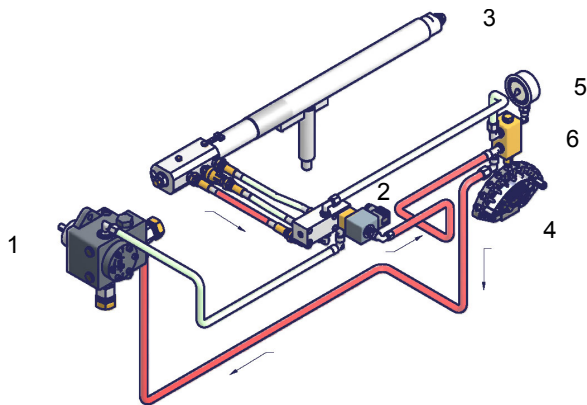

Fig. 5 - Stand-by
3. Screw VD on with 2 M5 screws for each, max. 5 Nm/44 in.-lb., fig. 5/6.